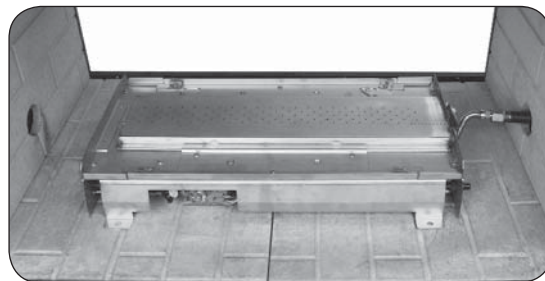

Fig. 14-2 Overall orientation (24" shown)
3. Place the burner system in the fireplace. Center the burner in the fireplace. (Reference Fig. 14-2 for orientation.)